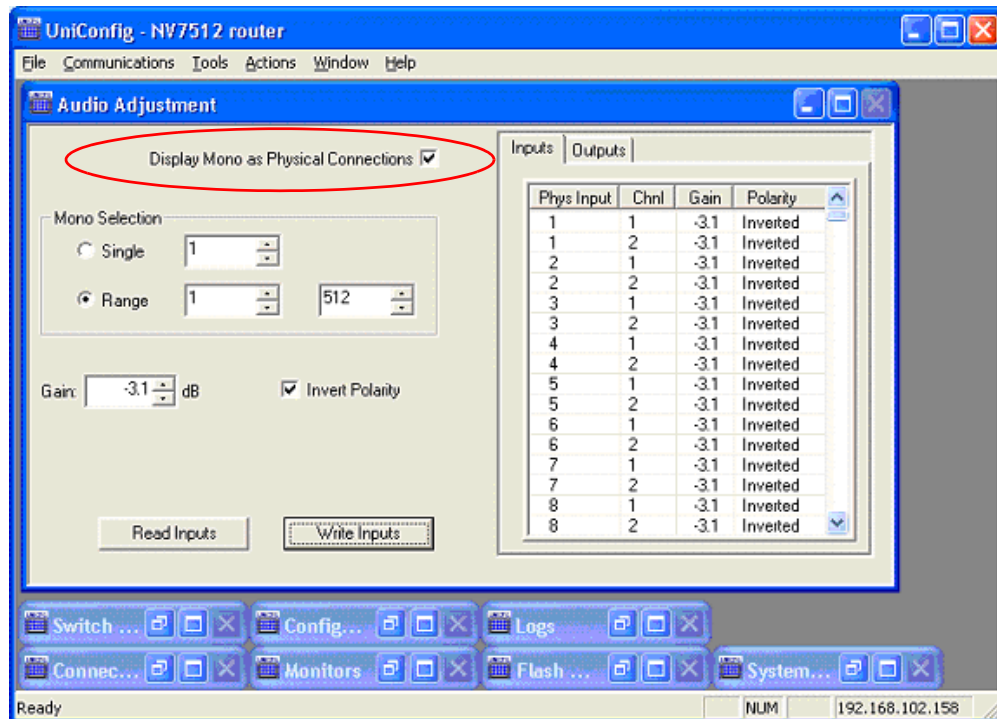

Figure 3-5. Input Gain Values in UniConfig Audio Adjustment Window - Mono Mode
- 6 (Optional) To display each left or right channel of a stereo signal, check the 'Display Mono as Physical Connections' check box, as shown in Figure 3-5.